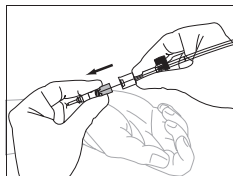

Figure 4
- Firmly hold introducer needle hub in position and advance catheter/needle protection assembly, over spring-wire guide into vessel (refer to Figure 4).